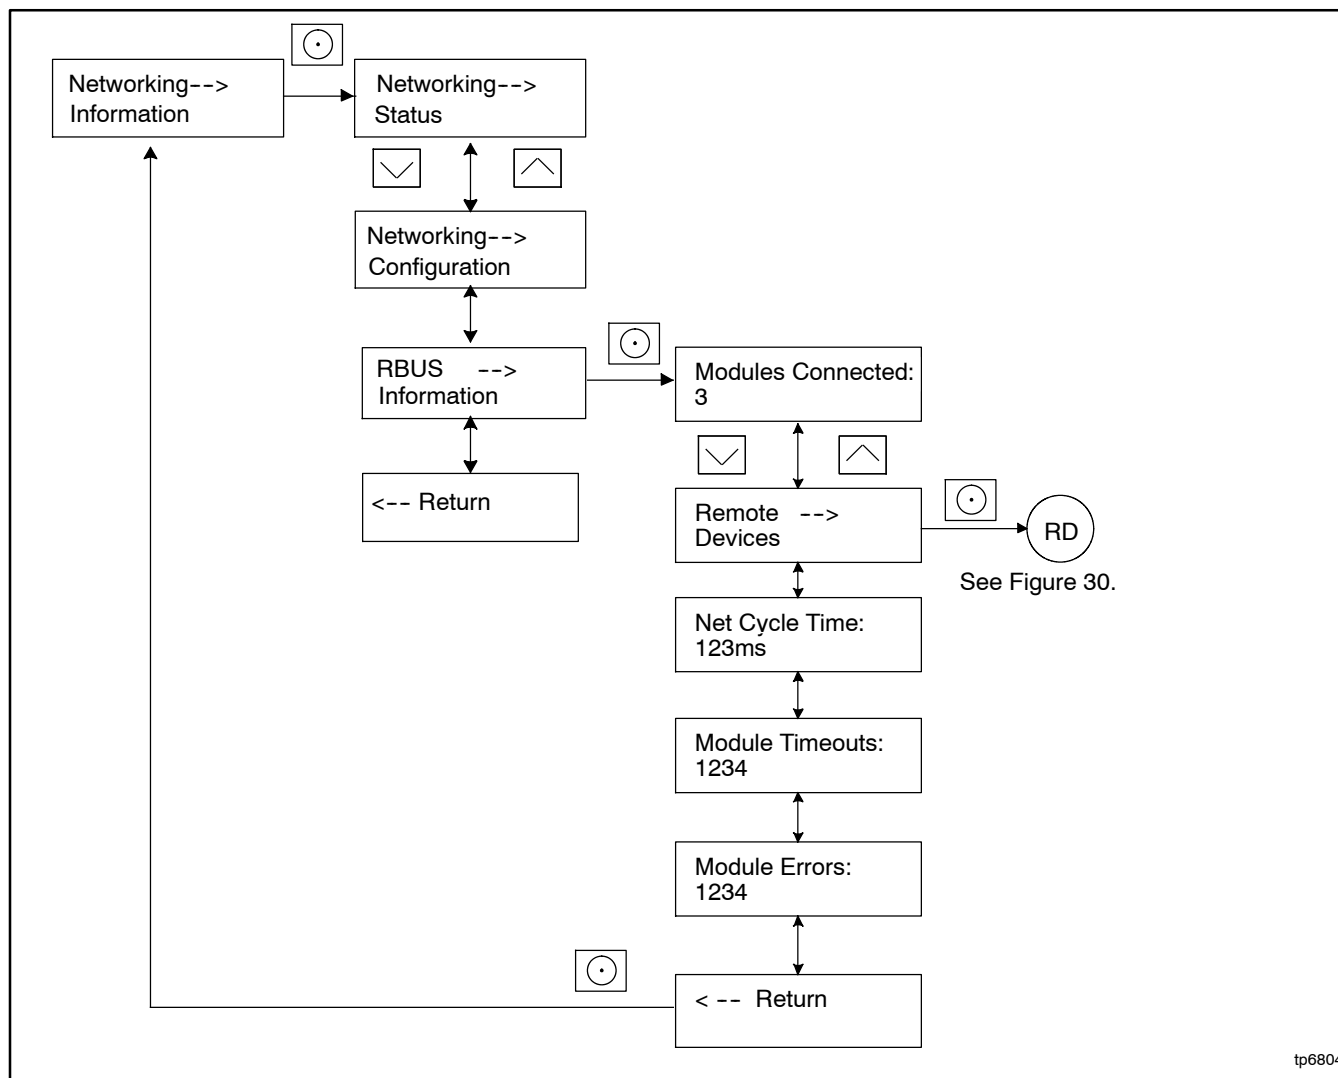
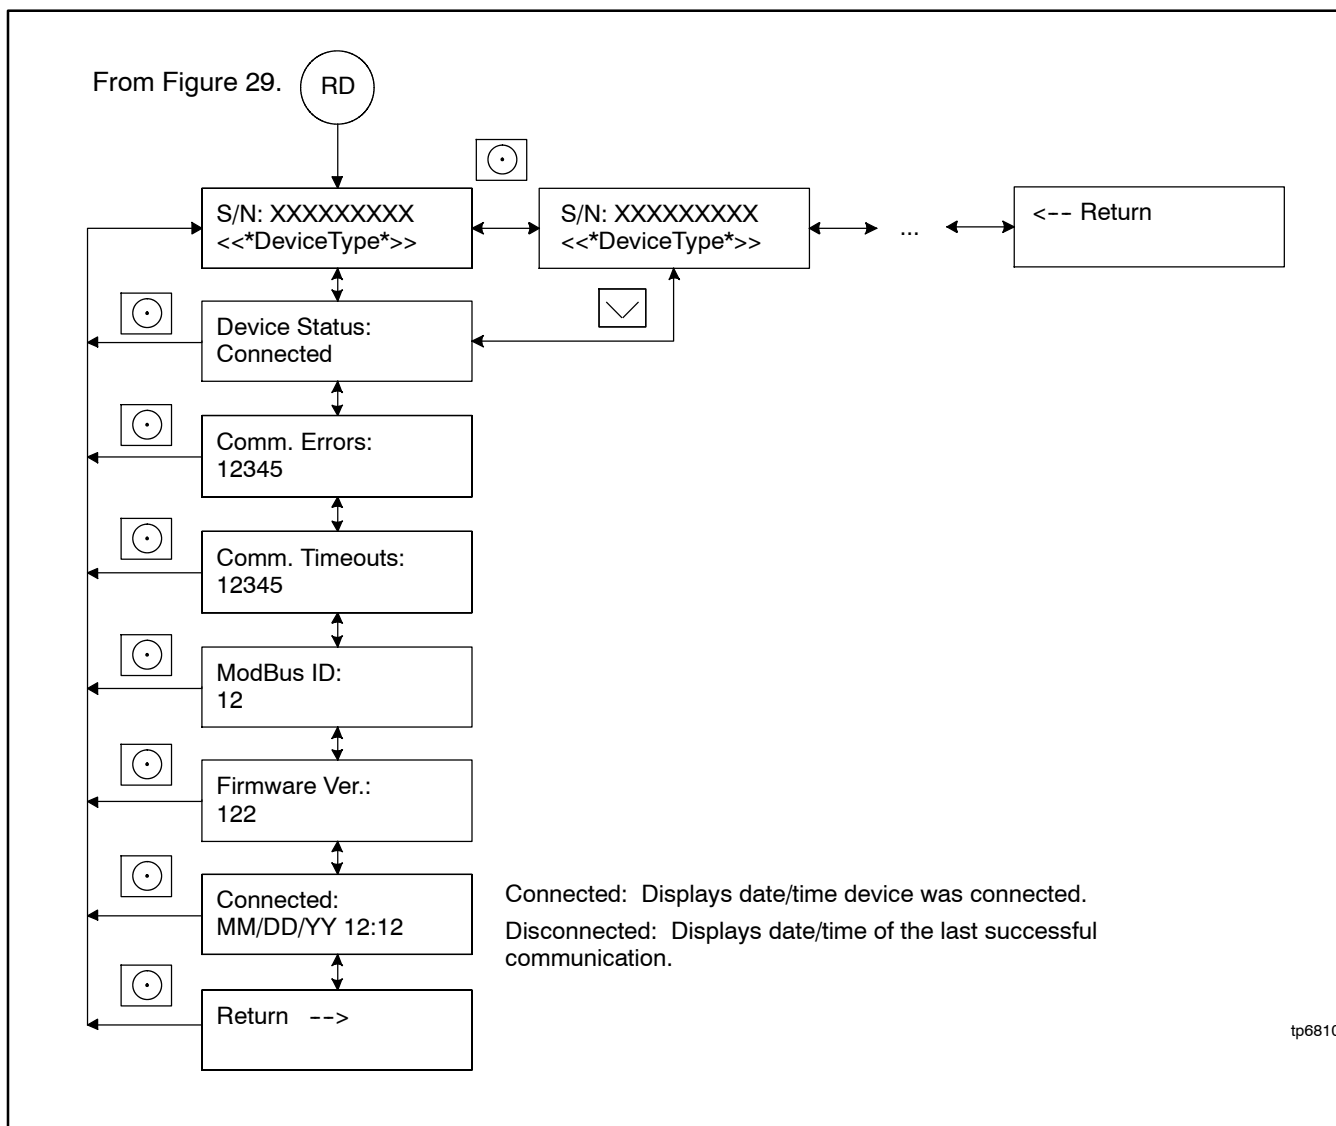

Figure 29 RDC2 Controller Menu, Networking Information
Figure 30 RDC2 Remote Devices Submenu
1. On the RDC2 controller, navigate to the Networking Menu and check the number of modules connected and the information for remote devices. See Figure 29 and Figure 30.